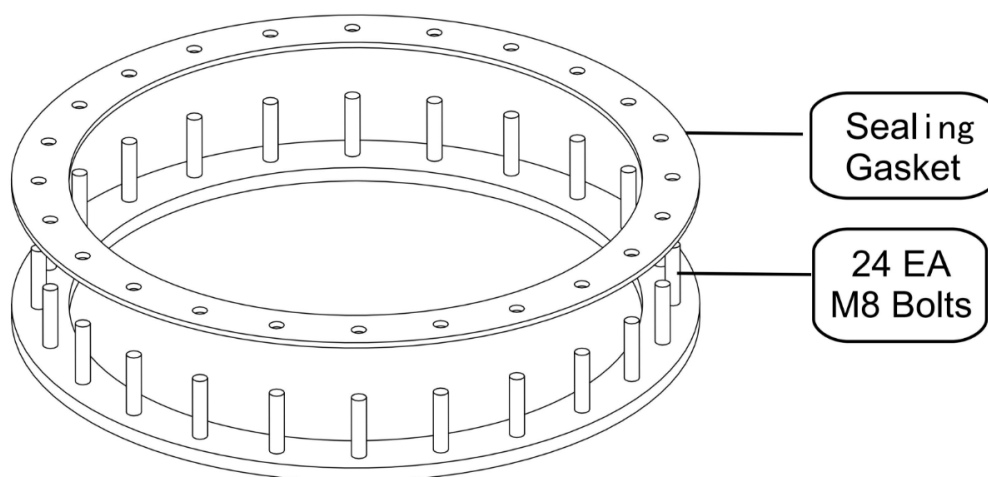

Figure 4.2.10
4.2.5.3 Clean the sealing surface before mounting the on-load tap-changer mounting flange. Place the sealing gasket on the transformer mounting flange and fix the on-load tap-changer mounting flange to the transformer mounting flange (24 pieces of M8 bolts, torque 100 to 110 N·m). (see Figure 4.2.10).